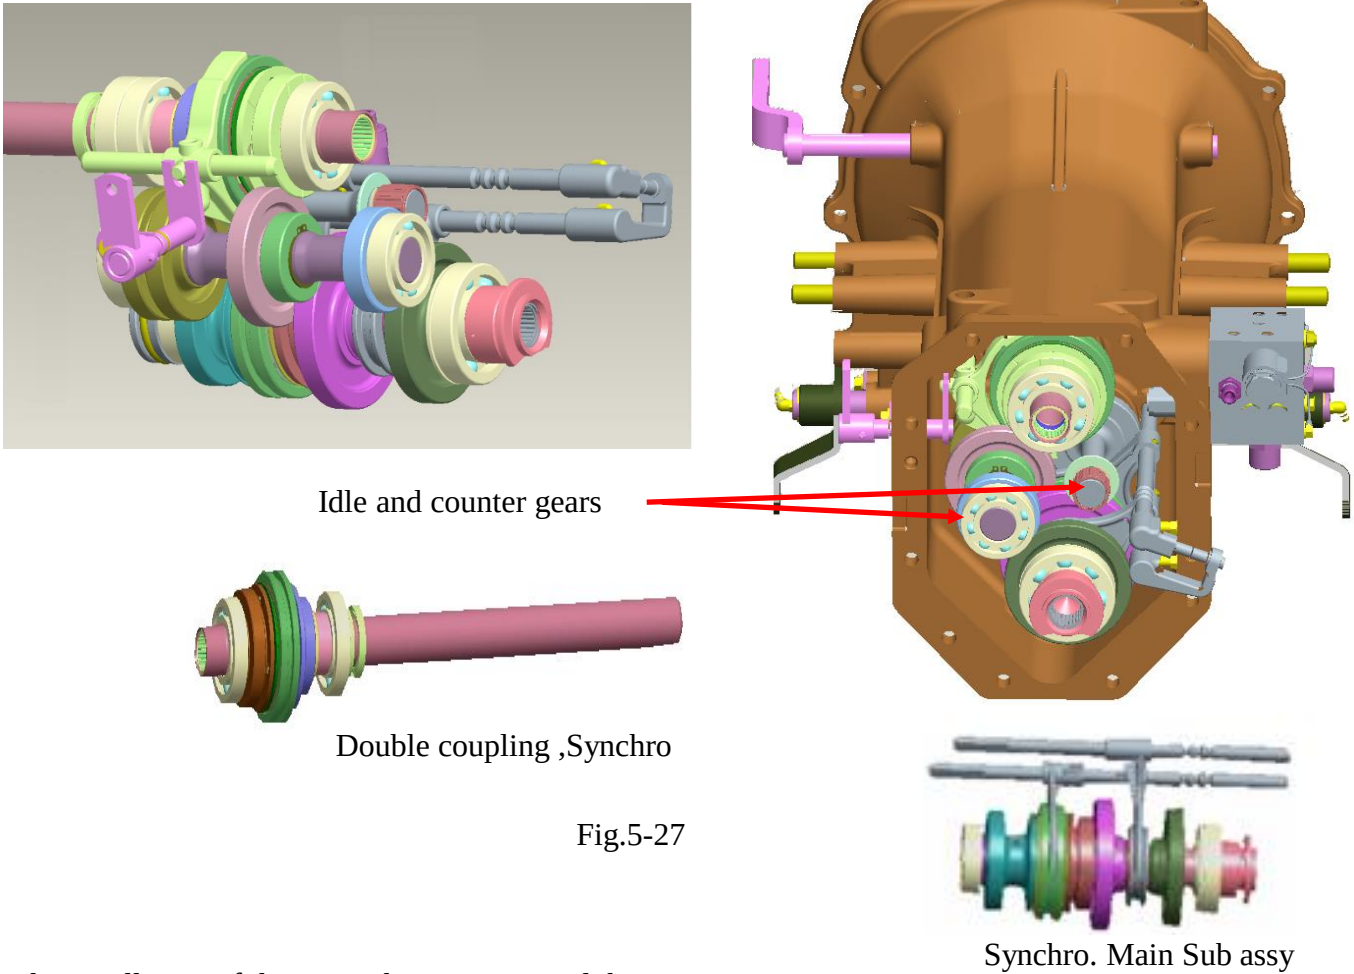

Fig.5-27
(3) installation of the reverse change lever and related parts.
- a. Install the reverse gear assembly from the spacer transmission referring to the description (Fig 5-27), (Fig.5-28), (Fig.5-291)